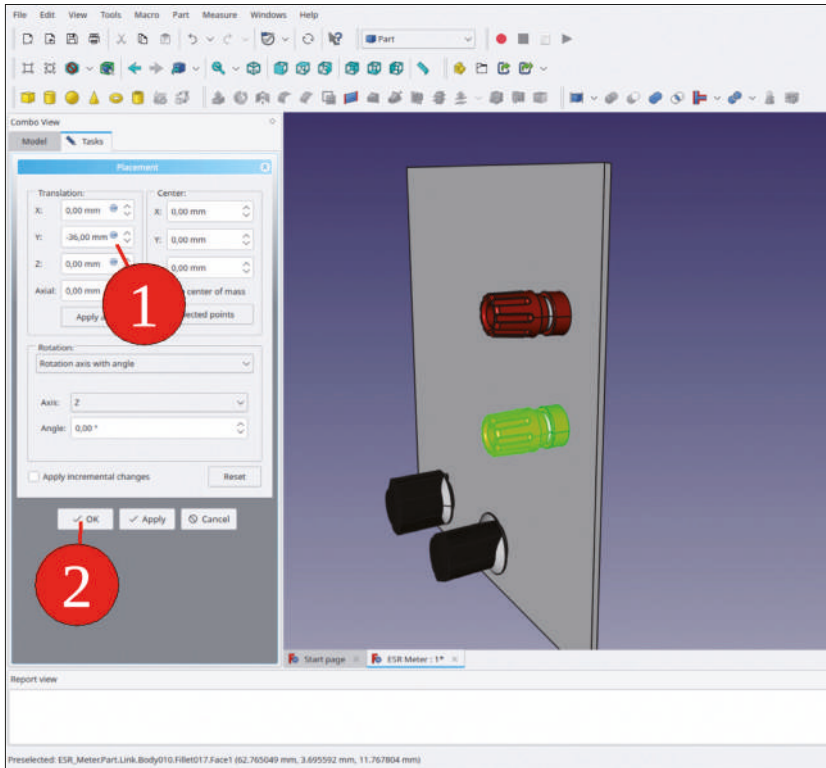

Figure 7-34
18. Edit the 'Link Placement' parameters and enter a value of -38 mm for the Y translation (Figure 7-34).